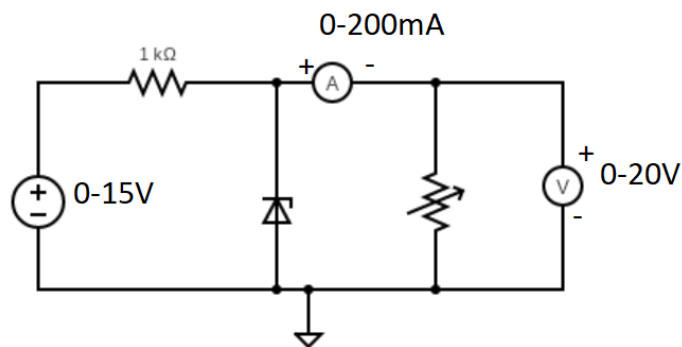

Figure 4.4: Circuit Diagram for Zener diode as voltage regulator
1. Connections are made as per the Figure 4.4.